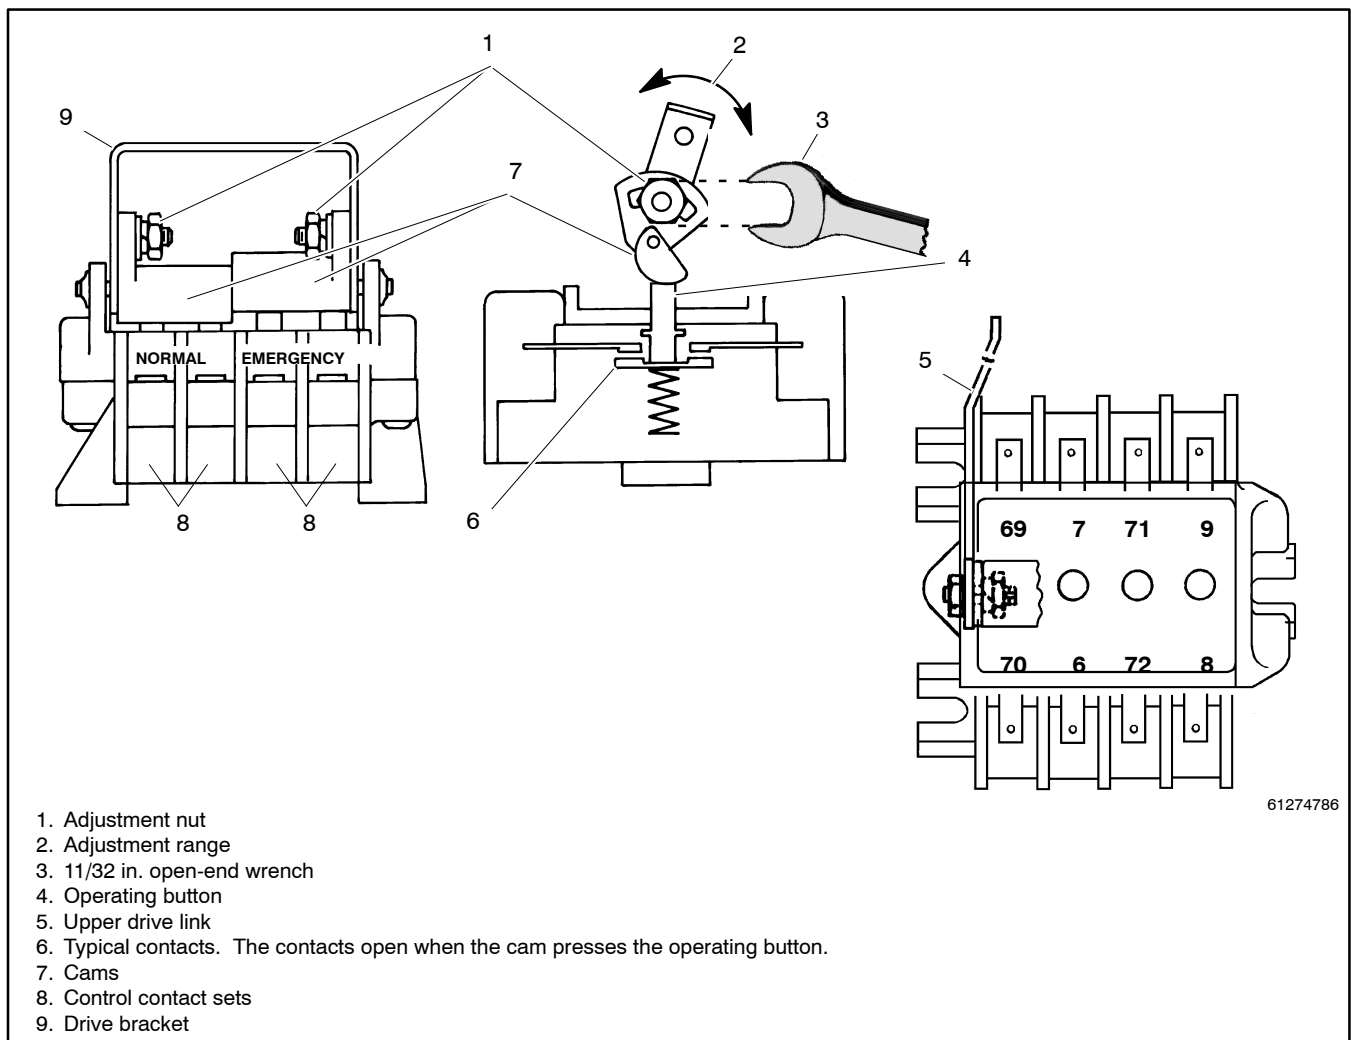

Figure 6-11 TS Control Contact Arrangement (transfer switch is in the normal position)
- a. Refer to Figure 6-11. Two sets of contacts interrupt the control current to the solenoid operator coil (TS) in each direction (transfer to emergency and retransfer to normal). In Figure 6-11, the transfer switch is in the normal position and the coil control contacts for the emergency side are closed, ready to allow